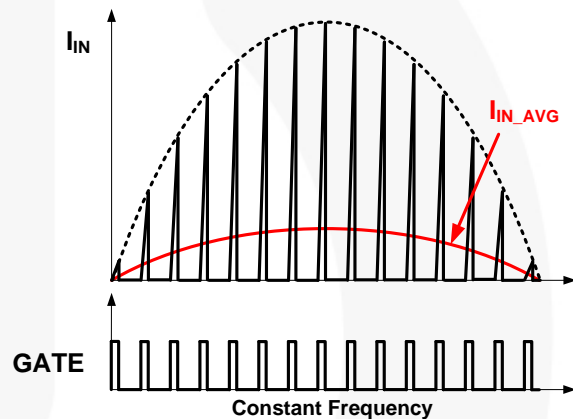

Figure 18. Input Current and Switching
In a conventional boost converter, Boundary Conduction Mode (BCM) is generally used to keep input current in phase with input voltage for power factor (PF) and Total Harmonic Distortion (THD). However, in flyback / buck boost topology, constant turn-on time and constant frequency in Discontinuous Conduction Mode (DCM) can implement high PF and low THD, as shown in Figure 18. Constant turn-on time is maintained by an internal error amplifier and a large external capacitor (typically $>1\mu F$) at the COMI pin. Constant frequency and DCM operation are managed by linear frequency control.